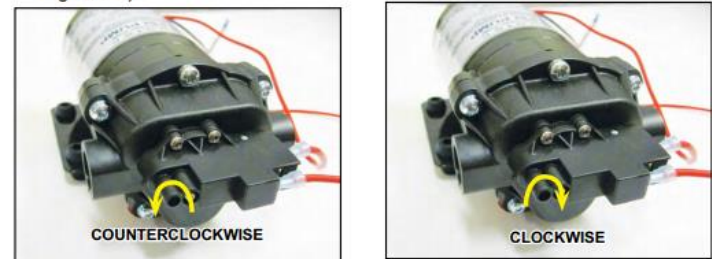

Figure 4-4. Insert Hex L-Key and Turn It Counterclockwise/Clockwise
1. If the pump continues to run for longer than 3 to 5 seconds, turn the screw counterclockwise until the pump switches off (see Figure 4-4).